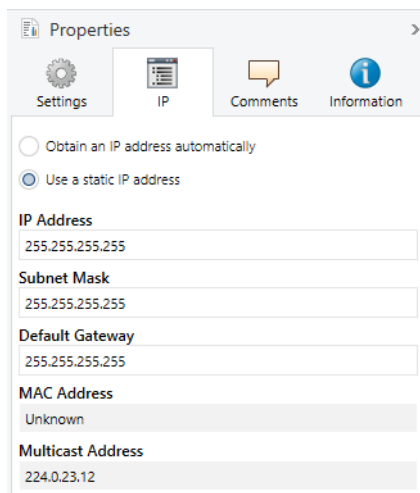

Figure 21: IP settings
3. You will find the available selection options in figure 21 and table 12 "Settings for manual IP address entry or for receiving automatically", p. 33.